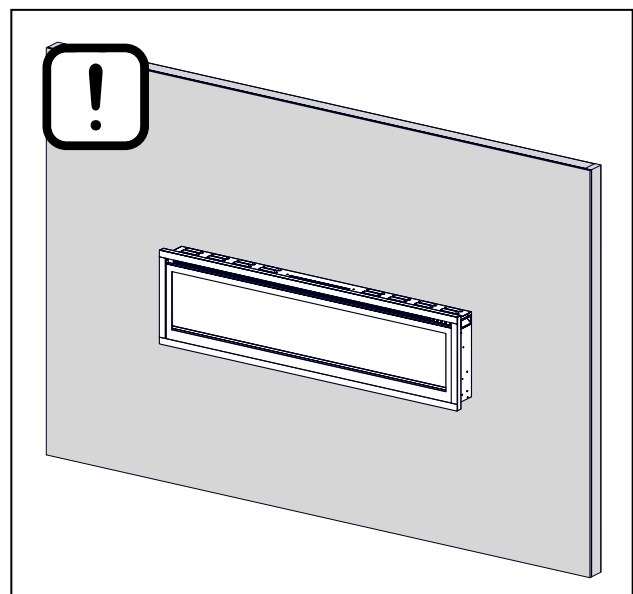

Fig 4
STEP 6: Check the appliance for stability ensuring that the bracket will not pull free from the wall (**Fig 4**).
STEP 2: Using the screw previously removed, attached the L-bracket (supplied) to the bottom of the fireplace box, refer to Figure 4.
STEP 3: Install the plastic anchor (C) into the drywall, then install the screw B (supplied) into the hole of the